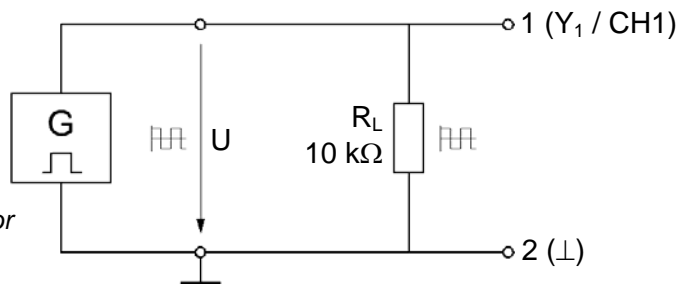

Fig. 10.3.2.1: Circuit with square-wave generator
The characteristic quantities will now be derived from measurements on a symmetrical square-wave voltage circuit as shown in Fig. 10.3.2.1.
- Assemble the circuit in Fig. 10.3.2.1 using the function generator, on the Electronic Circuits Board.